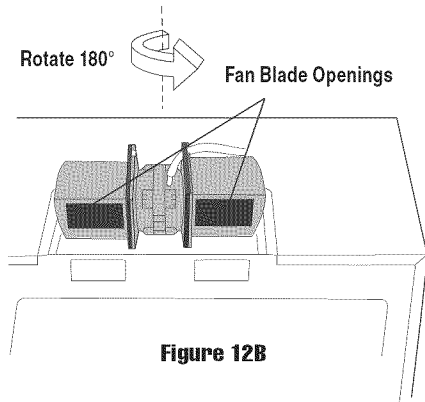
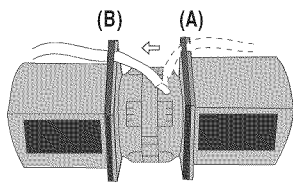
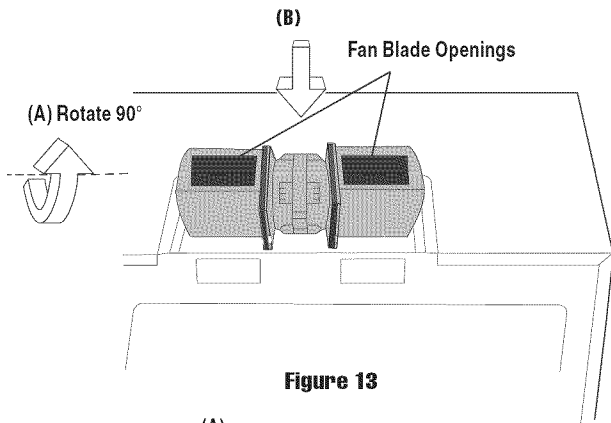

Figure 12B
Figure 12C
Figure 13
3. Rotate the Hood Fan Unit 180° so that the Fan Blade Openings are facing the back of the oven. See Figure 12B on page 6. Replace Hood Fan Wire from (A) to (B). See Figure 12C on page 6. Then rotate the Hood Fan Unit 90° so that the Fan Blade Openings are facing the top of the oven. See Figure 13 on page 6. Replace Hood Fan Unit into the oven. Be careful not to pinch the lead wire between the inner bracket and the Hood Fan Unit. Put the lead wire into Wire Box.